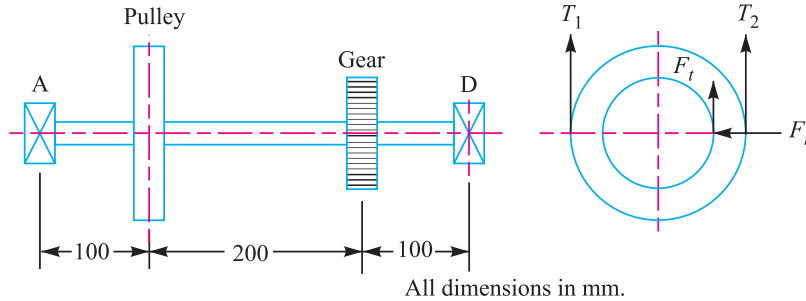

Fig. 14.19
14. A shaft made of steel receives 7.5 kW power at 1500 r.p.m. A pulley mounted on the shaft as shown in Fig. 14.19 has ratio of belt tensions 4.